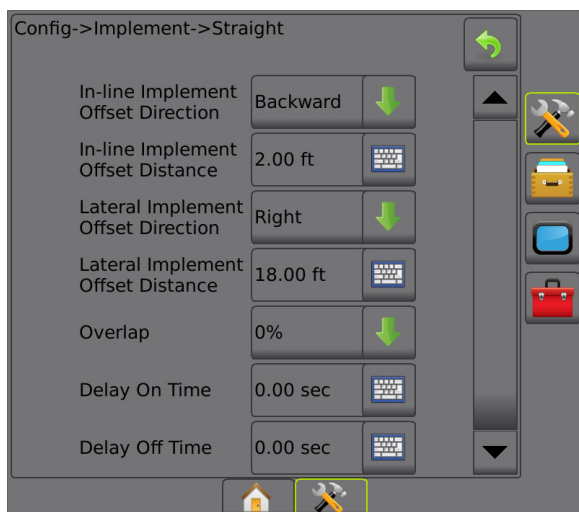

Figure 13 - Implement alignment screen
- Press the button next to the implement type field to access the implement alignment screen, Figure 13.